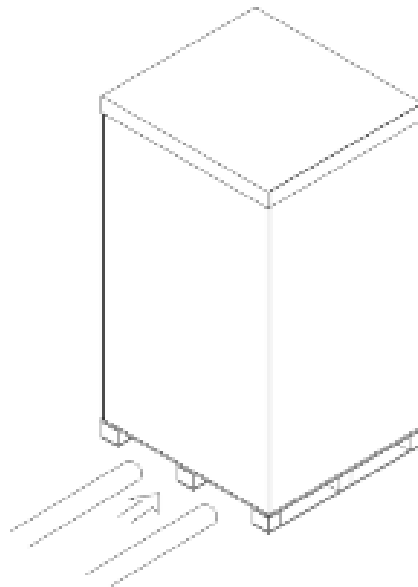

Figure 3-3 Transport to the designated site
Step 2: Transport the equipment to the designated site by forklift, as shown in Figure 3-3;